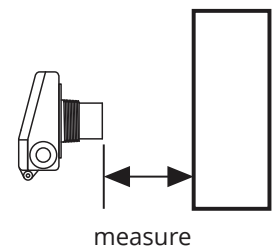

Figure 3.2
- Point the sensor at a target near the minimum measurement range, 1' plus any Blanking distance (See Figure 3.2).